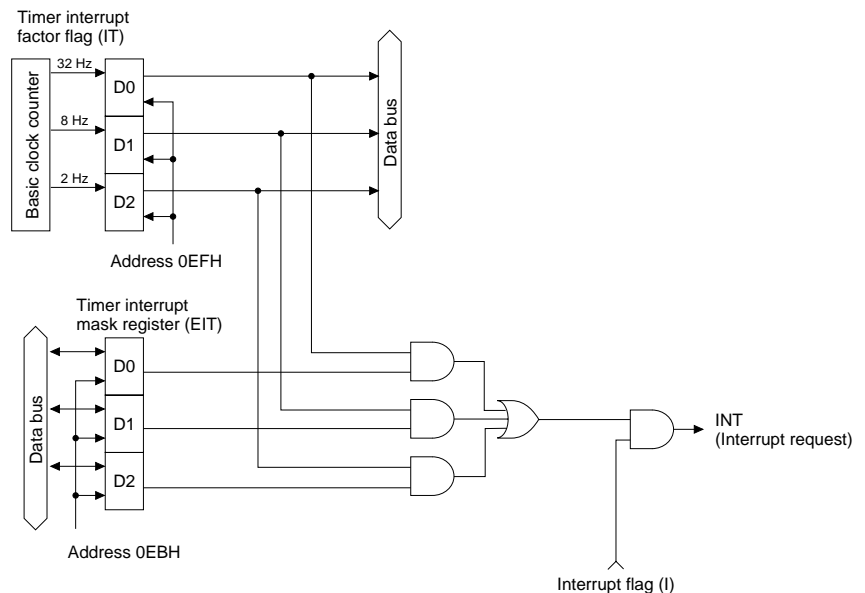

Fig. 3.11.3
The flag is reset, when it is loaded by software. (See Figure 3.11.3.)
EIT32 This register enables or masks the 32 Hz timer interrupt. The CPU is interrupted if it is in the EI state when the interrupt mask register (EIT32) is set to "1" and the interrupt condition flag (IT32) is "1". (See Figure 3.11.3.)
- EIT8** This register enables or masks the 8 Hz timer interrupt. The CPU is interrupted if it is in the EI state when the interrupt mask register (EIT8) is set to "1" and the interrupt condition flag (IT8) is "1". (See Figure 3.11.3.)
- EIT2** This register enables or masks the 2 Hz timer interrupt. The CPU is interrupted if it is in the EI state when the interrupt mask register (EIT2) is set to "1" and the interrupt condition flag (IT2) is "1". (See Figure 3.11.3.)